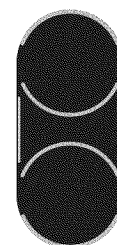

Fig. 4
COOKTOP POWER- The Cooktop POWER key pad activates the entire Cooktop. To power the cooktop, touch and hold the POWER key pad. A beep will sound and the Power LED will glow (See Fig. 4). The cooktop will be in a ready mode. If no other key pads are touched the Cooktop Main POWER will turn OFF automatically. To turn the Main Power OFF touch and hold the Main POWER key pad. A beep will sound and the Power Indicator Light will turn OFF (See Fig. 3).
4. Press **ELEMENT SIZE** keypad and toggle to select the front portion (Fig. 2), the front and center portion (Fig. 3) or the entire (Fig. 4) bridge element.